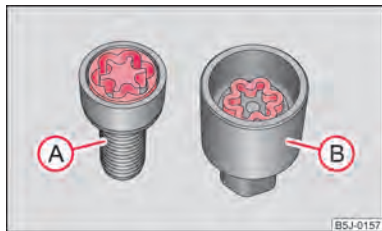

Fig. 140 Illustration image: Safety wheel bolt with adapter
- Insert the adapter (B) with its toothed side into the inner tothing of the head of the safety wheel bolt (A) => fig. 140.
- Insert the wheel wrench fully onto the adapter (B).